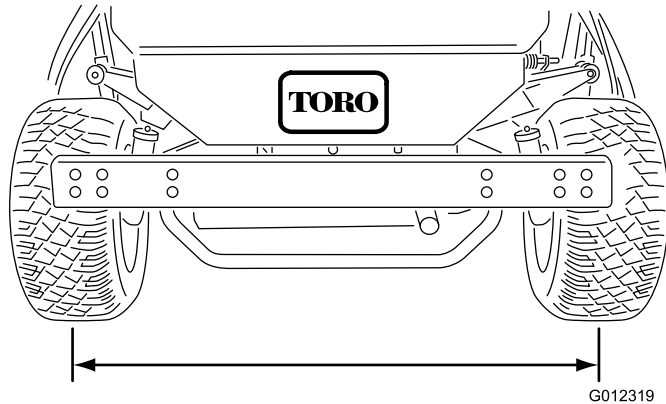

Figure 35
1. Measure the center-to-center distance (at axle height) at front and rear of the steering tires (Figure 35). The front measurement must be 1/8 inch (3 mm) less than the rear measurement.